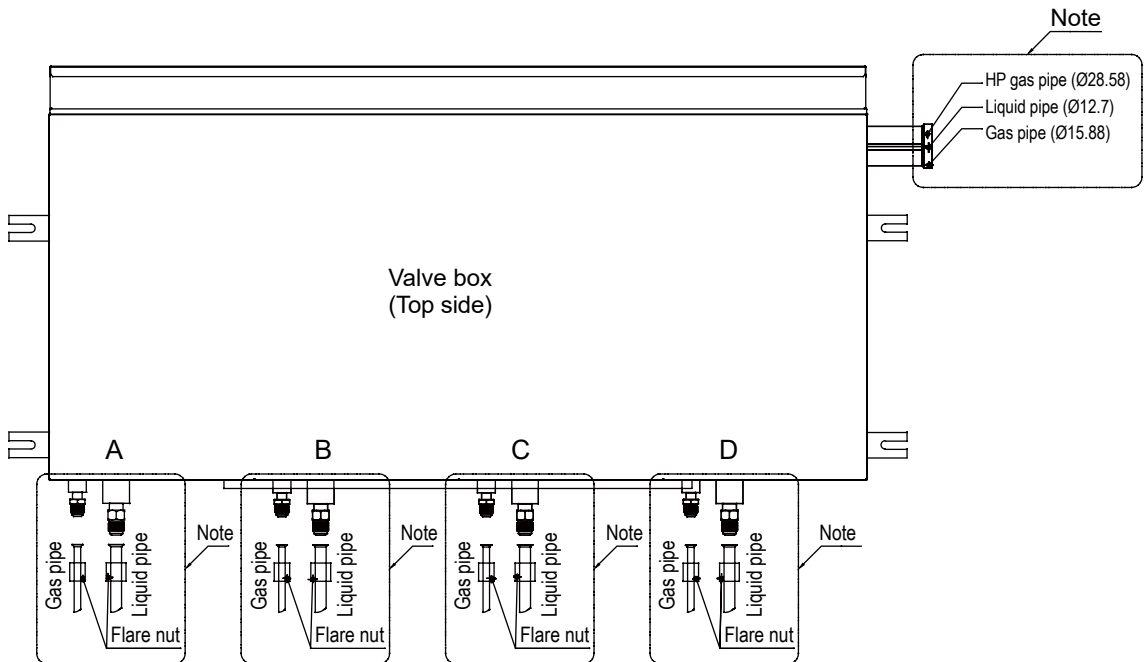

Fig.11
When a 072, 092, 22 or 28 indoor unit is connected in the downstream, please use the auxiliary pipe ①-1,2 for connection according to Fig.11.
When a 122, 162, 182, 36, 45 or 56 indoor unit is connected in the downstream, please use the auxiliary pipe ①-1,3 for connection according to Fig.11.
When a High wall 0.8/1HP indoor unit is connected in the downstream, please use the auxiliary pipe ①-1,3 for connection according to Fig.11.